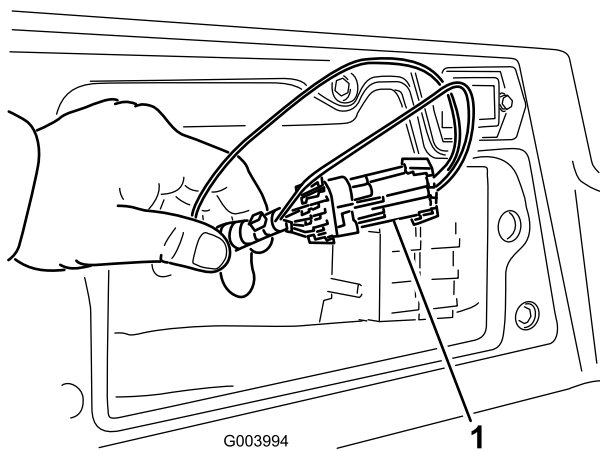

Figure 50
3. Locate the wire harness and connectors near the controller (Figure 50).